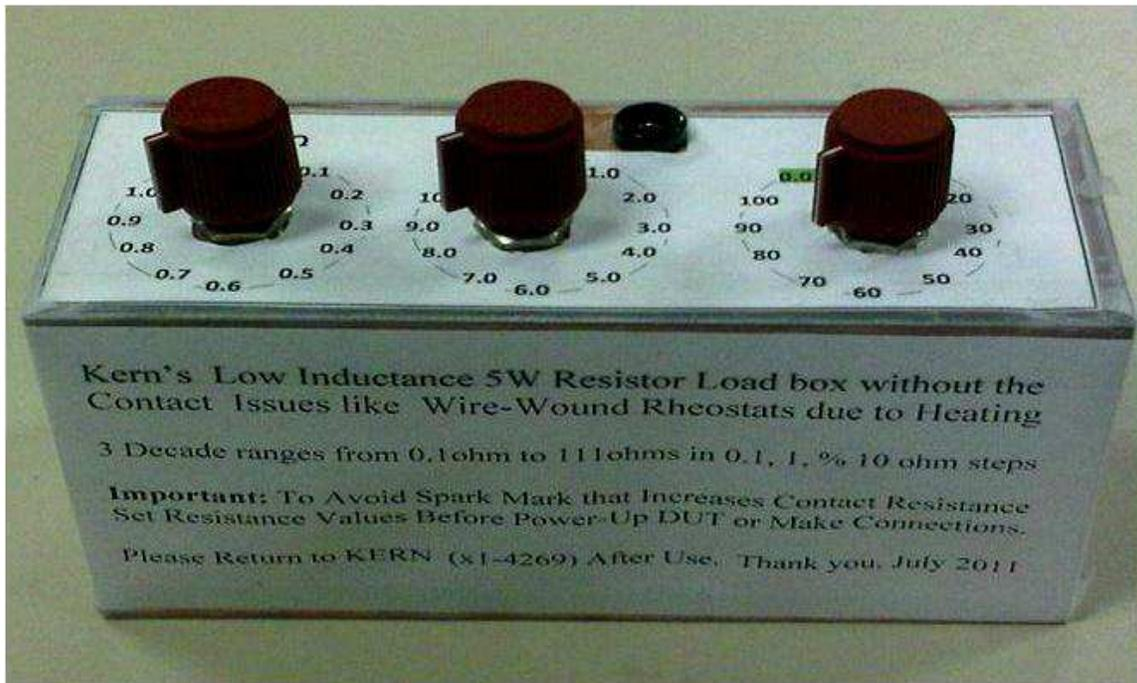

**Figure 9. A Rheostat Variable Resistor**
**NOTE:** Infrequently some regulators will not tolerate E-loads and may result in instability or noisy response. Then  $R_{load}$  should be used. A rheostat is convenient for ease-of-load adjustment. But, at heavy loading, heating may cause contact issues, and, while the coil winding is also an effective inductor, it is not a desirable feature for transient analysis (see Figure 9). A low-inductance decade box is the preferred adjustable Resistive Load, built with non-wire wound or surface-mount power components with short and wide metal interconnects (see Figure 10).